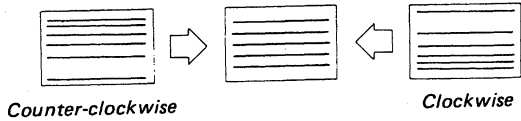

Fig. 31-2
3. Adjust the balance of V lineality with V.L.B (RV9) on the D board as shown in Fig 31-2.